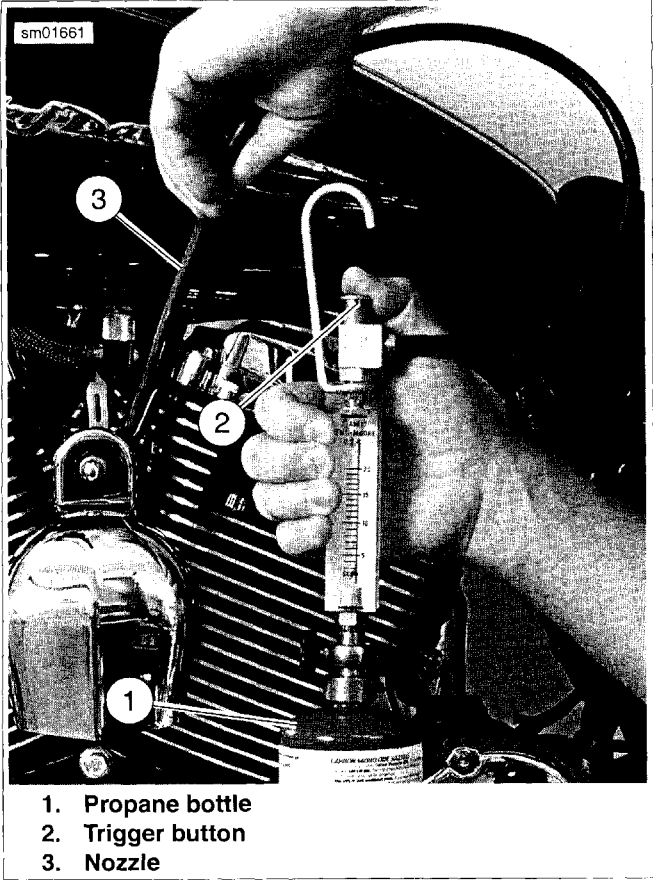

Figure 4-88. Checking for Leaks: All Models (XL 1200C Shown)
3. See Figure 4-88. Aim nozzle (3) toward possible sources of leak such as intake manifold mating surfaces.
4. Press and release trigger button (2) to dispense propane. Tone of engine will change when propane enters source of leak. Repeat as necessary to detect leak.